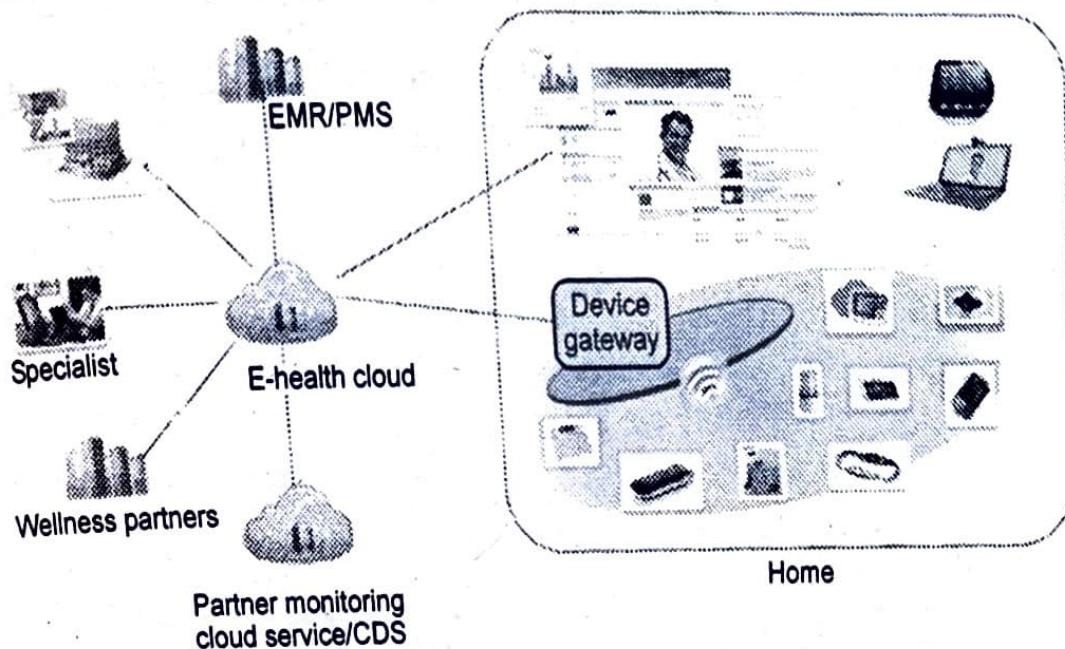

Fig. Q.10.1 High level E - health ecosystem architecture
- Fig. Q.10.1 shows high level E - health ecosystem architecture.